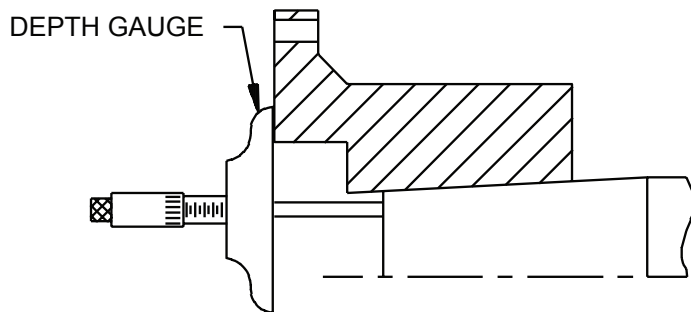

Figure 1. Mesuring Hub Overhang
- 2.4 Clean the hub bore and shaft. For straight bores, proceed to step 2.6. For tapered bores, mount the hub hand-tight on the shaft and lightly rap it with a soft mallet to establish the initial line-to-line fit. This is the START position. With a depth gauge, measure the amount the hub over hangs the shaft end and record this value. See Figure 1.
- 2.7 Place the hub in the proper position on the shaft. Hold the hub in place as it cools. For tapered bores, verify the hub advance (see Figures 1 and 2) and install the shaft